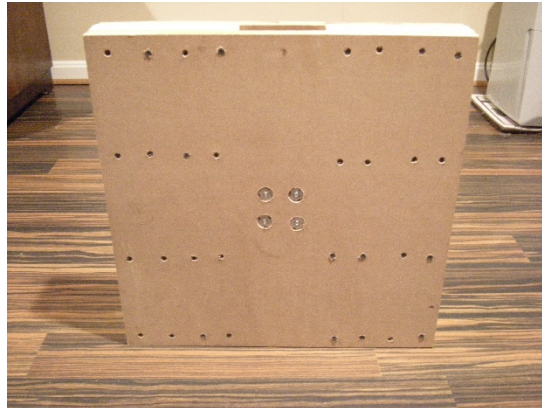

Figure 1 – Screw pattern for Crusher base and Crusher board
1. Square two of the 3/4" thick 18" x 18" MDF/plywood pieces and clamp together. Screw together as shown in figure 1. Remove the clamps.
5. Bottom of Crusher base - On a flat surface (work bench or table) place two 2 x 4s next to each other and align with the opposite edges of the 3/4" thick 18" x 18" MDF/plywood piece with the hole in the middle. Place the other two 2x4s next to each other and align with the opposite edges of this piece of MDF/plywood board. Screw through the board into the 2 x 4s using 1 1/2" screws, Figure 1.
6. Find the center of the board and mark it. Center the flange on the mark and mark the 4 holes in the flange on the base as shown in Figure 1. Drill 4 holes through the base for the metal screws to hold the flange to the base.
- Top of Crusher base - Place and align the last piece of  $\frac{3}{4}$ " thick 18" x 18" MDF/plywood board (with the hole cut in the center) on top and attach it to the 2 x 4s using 1  $\frac{1}{2}$ " screws as shown in Figure 1.
- Mix a portion of the epoxy and apply to the top of the crusher base. Lay the piece of  $\frac{1}{16}$ " thick 18" x 18" hardboard with the hole in cut through the center on the epoxy and square it to the crusher board as shown in Figures 1 and 4. Clamp together and let it set up overnight.